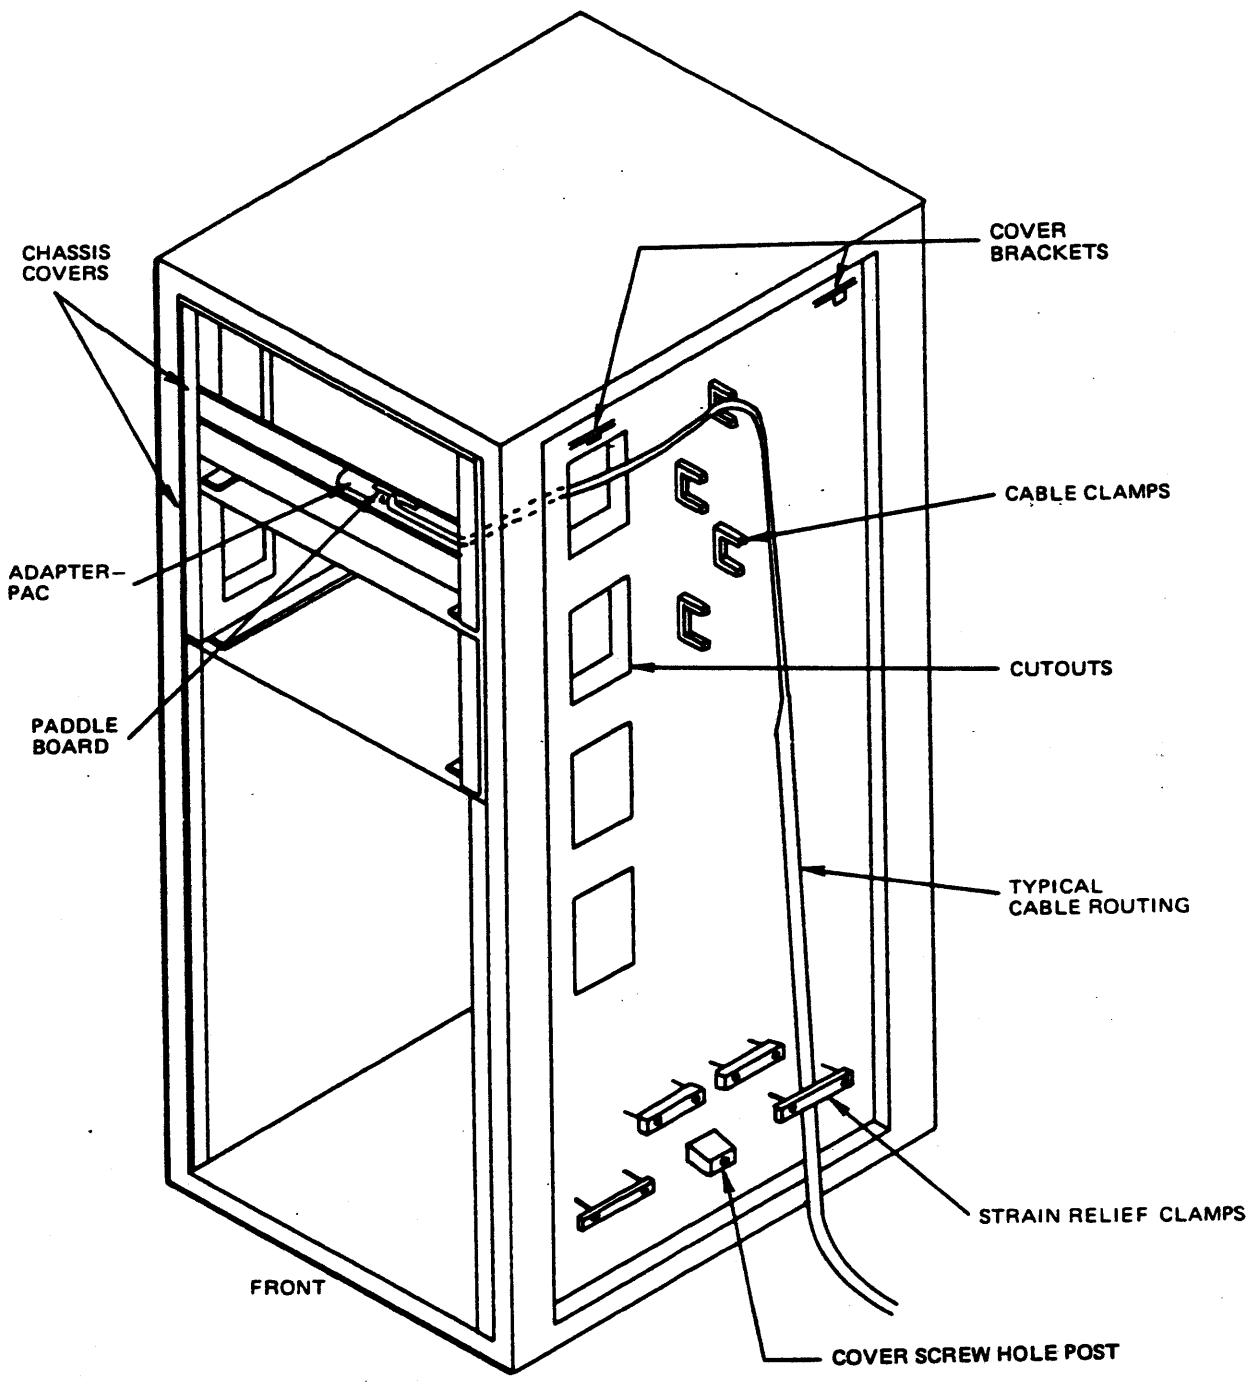

Figure 3-56 CIB and Console Cable Installation
2. Remove the strain relief clamps on the side of the cabinet (see Figure 3-56).